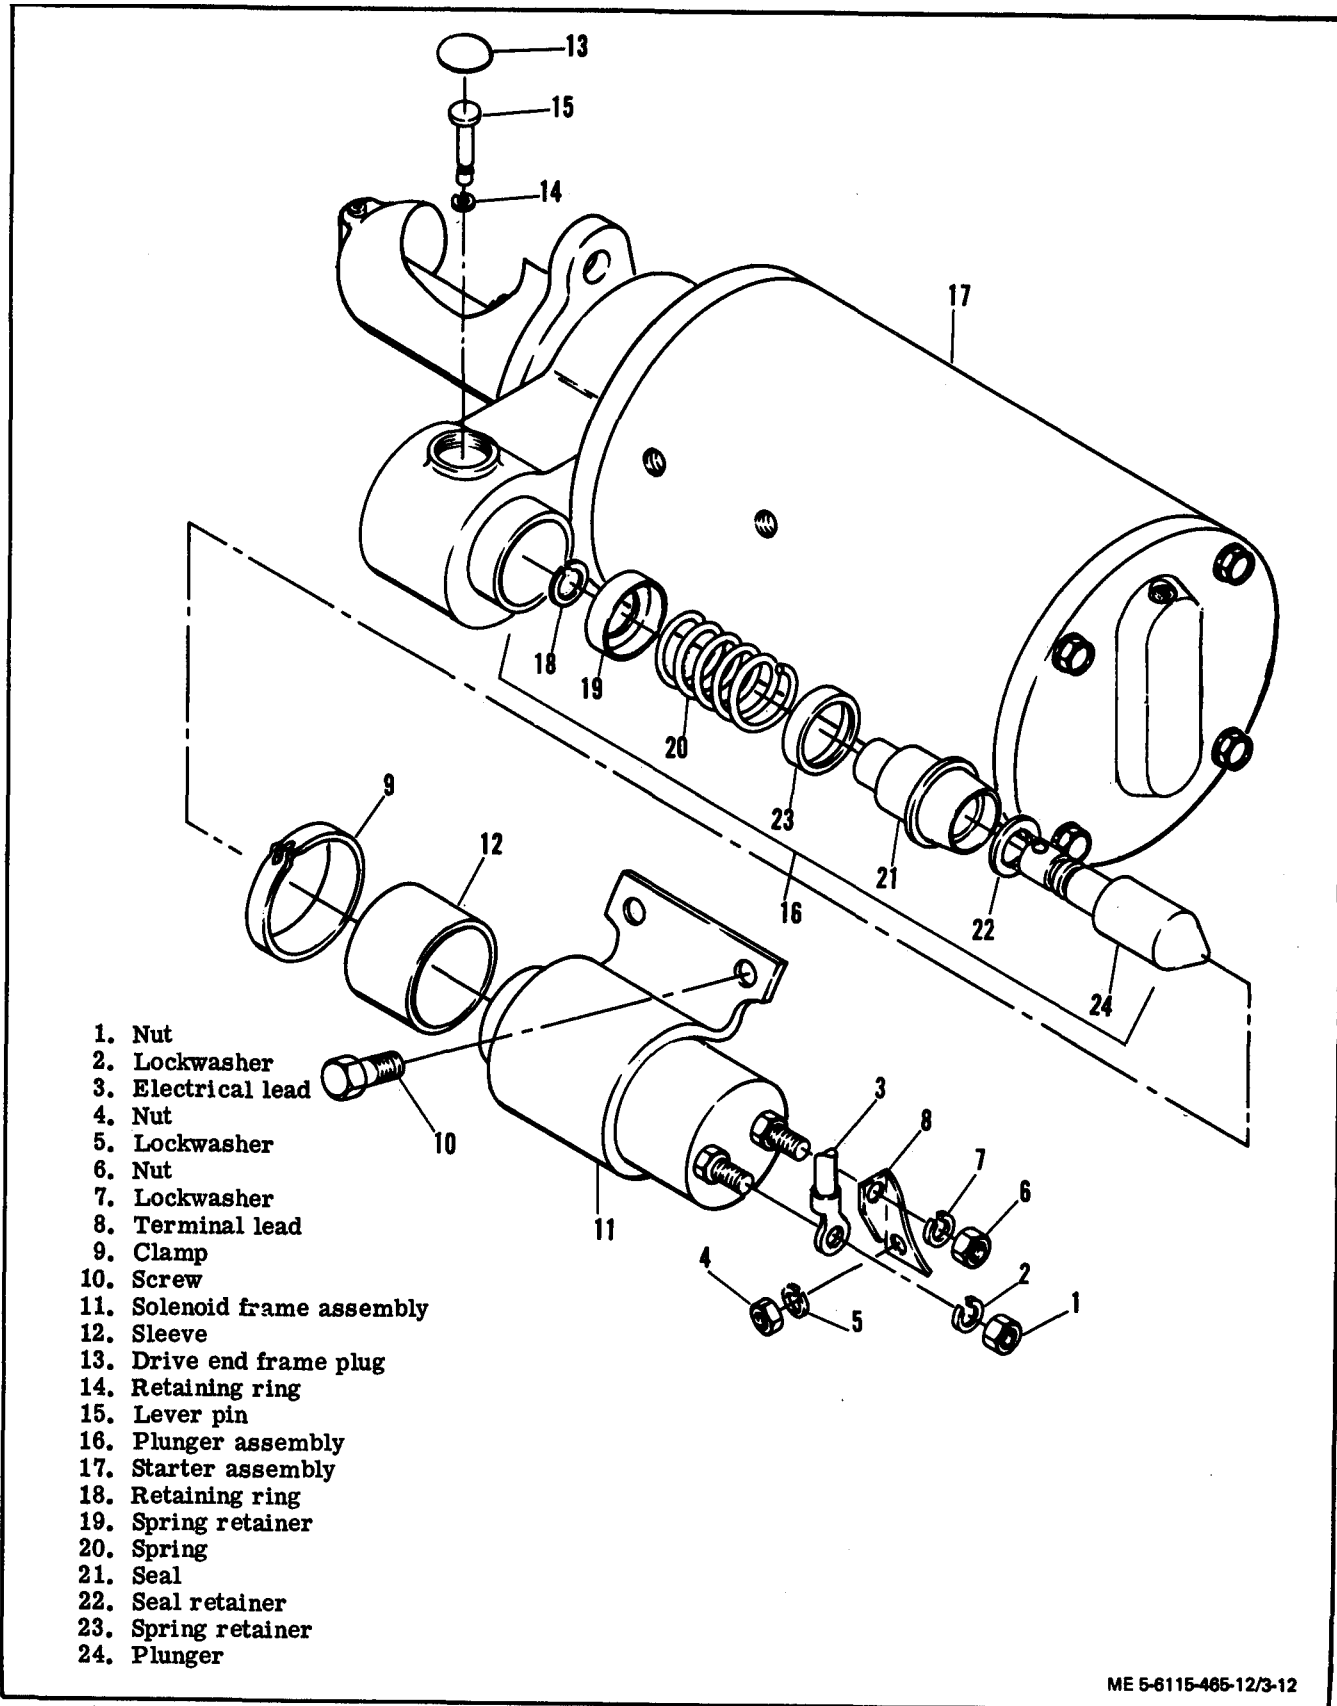

Figure 3-12. Starter Solenoid Replacement
(a) Remove nut (1, figure 3-12) and lockwasher (2) to disconnect electrical lead (3).
Maintain proper polarity when connecting multimeter. Electrical lead (3, figure 3-12) is positive lead.